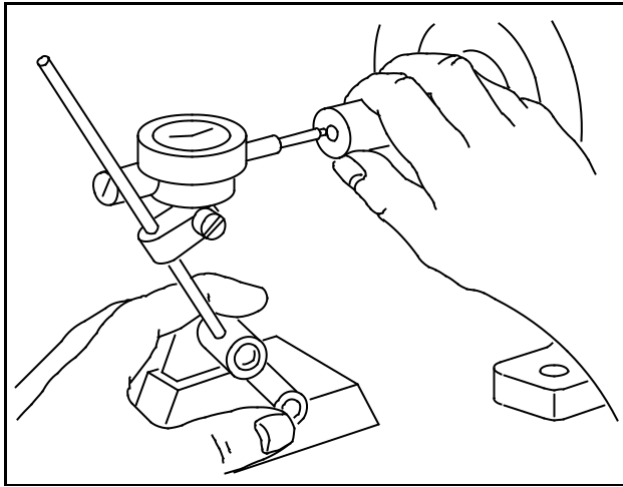

Fig. 150 - CHECKING END PLAY WITH DIAL INDICATOR
6. Repeat both steps to verify dial indicator reading, Fig. 150.